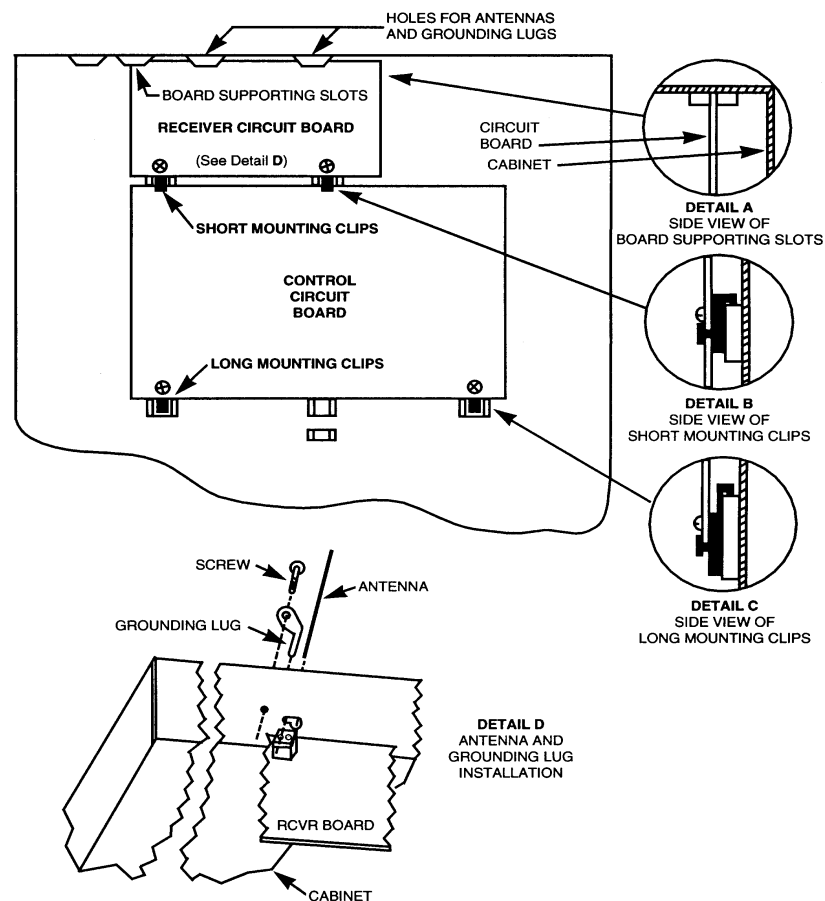

Figure 3. Installing The PC Board And RF Receiver Together In The Cabinet
1. Hang two *short* (black) mounting clips (provided with receiver) on the raised cabinet tabs, as shown in Detail B in Figure 3.
2. Insert the top of the receiver board (removed from its own case as described in *its* instructions) into the slots at the top of the cabinet, as shown in Detail A in Figure 3. Make sure that the board rests on the correct row of tabs, as shown.
3. Swing the base of the board into the mounting clips and secure it to the cabinet with the accompanying screws (see Detail B in Fig. 3).
8. Setup and wiring of the receiver. is contained in the WIRELESS (RF) ZONE EXPANSION (5700 & 5800 RF SYSTEMS) section.